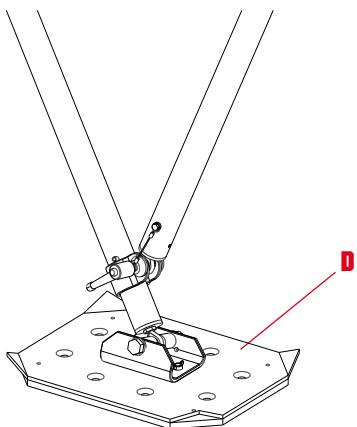

fig. 4A
- screw and tighten the shackles (M).
c) Choose the side of the feet (D) most suitable for the available surface and attach them using the appropriate screws:
- rubber side down for support on smooth and hard surfaces (fig. 4A),